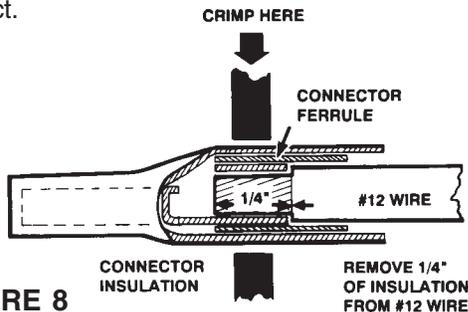
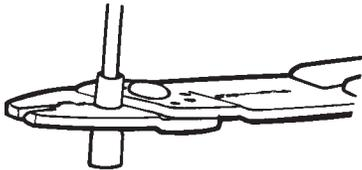
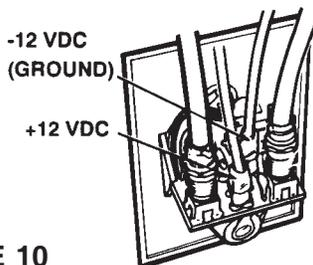

FIGURE 8
FIGURE 9
FIGURE 10
STEP 8. Install terminals on wires from +12 VDC source as shown in Fig. 8. Crimp terminals with Craftsman type 4 crimping tool in Fig. 9 or equivalent. Push wires onto tabs on terminal board as shown in Figure 10. If in doubt as to the polarity of the wires, connect them temporarily to tabs on circuit board in Fig. 10 and move switch on front of outlet to left, (in Fig. 11) if light comes on polarity is correct.